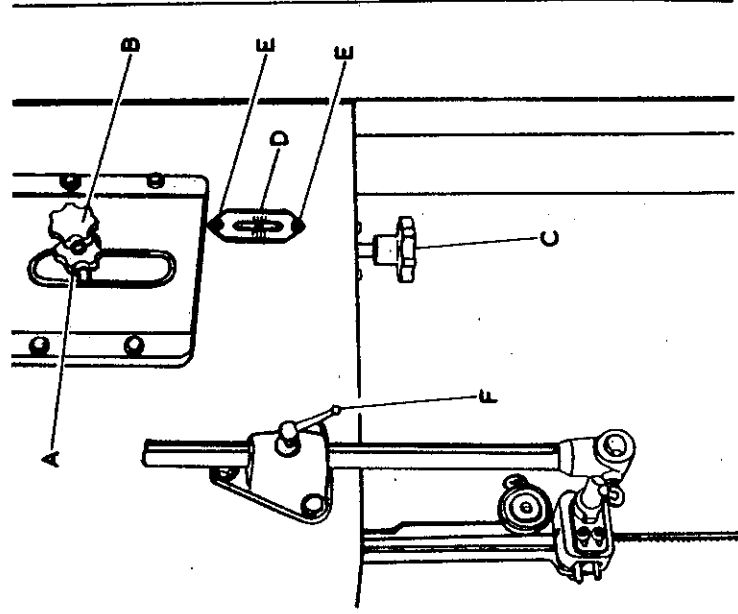

FIG.5
2. If not running central, loosen handwheel 'A' (Fig. 5) and adjust handwheel 'B' until the saw is tracking correctly i.e. in the centre of both wheels.
To tension the sawblade turn handwheel 'C' in Fig. 5 until the correct tension is reached according to the scale 'D'. The scale gives the correct tension for the width of blade which is being used irrespective of the length of the blade.
2. Check whether the scale indicates the correct sawblade width. If scale is incorrect, loosen two screws 'G' in Fig. 5 and position scale correctly. When set tighten all screws. After the scale has been set in this manner it will read correctly for any width of blade within the range of the machine without further alteration, even if the length of sawblade varies for any given width. For a $\frac{3}{4}$ " blade the pointer should read $\frac{3}{4}$ " etc.